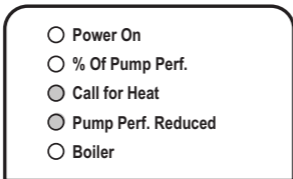

Figure 14 - Control Lights (PPR & CFH)
- Call For Heat and Pump Performance Reduced LEDs are flashing (Fig. 14):